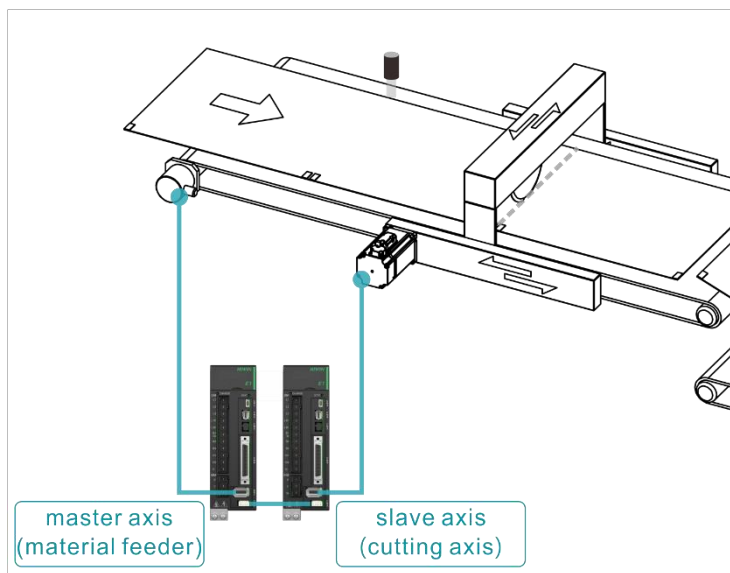

Figure 3.2.1.1 (Take E1 series servo drive as an example)
- (1) Connect to master (material feeder) servo drive in Figure 3.2.1.1 and set Pt00D = t.□□□1 based on Table 3.2.1.2 (define it as master axis - material feeder). After sending the parameter to servo drive, power cycle servo drive to make it become effective.
- (2) Connect to slave (cutting axis) servo drive in Figure 3.2.1.1 and set Pt00D = t.□□□0 based on Table 3.2.1.2 (define it as slave axis - cutting axis). After sending the parameter to servo drive, power cycle servo drive to make it become effective.